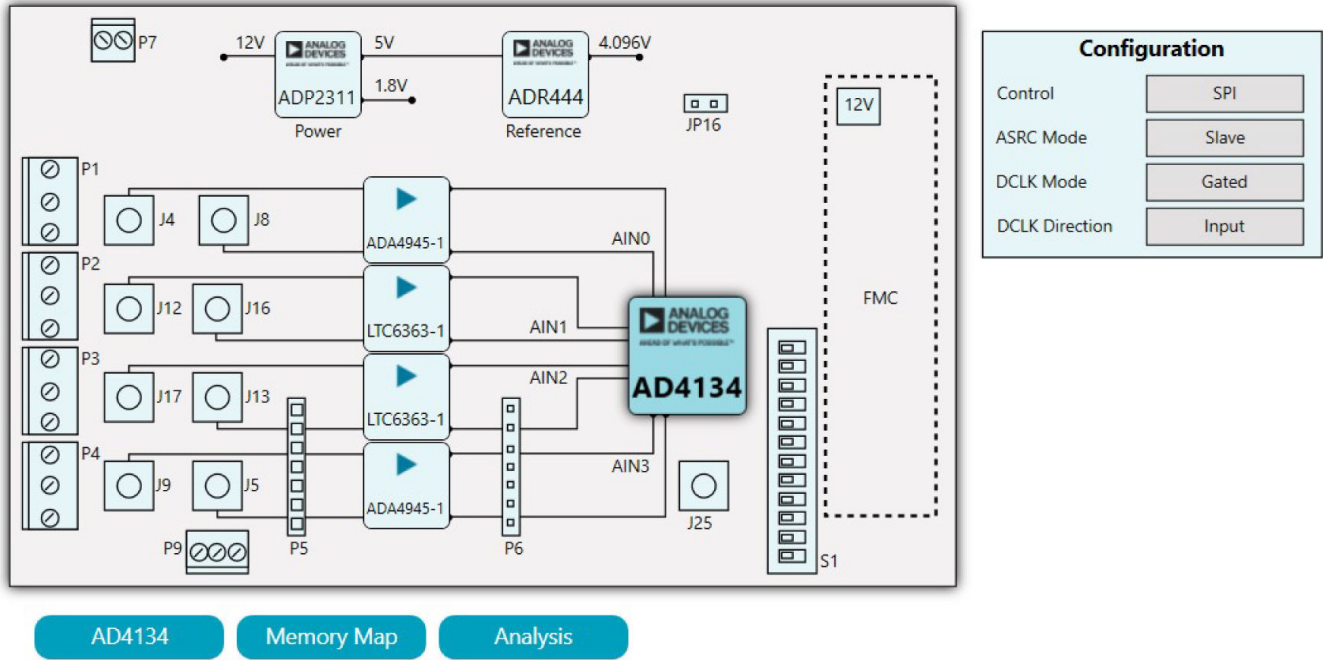

Figure 12. AD4134 Eval Board View Window
- Double click the **AD4134 Eval Board** icon in **Attached Hardware** section to open the **AD4134 Eval Board** view window shown in Figure 12.
The AD4134 Eval Board view window shows the set configuration of the AD4134 (see Figure 12). The application initializes the ADCs